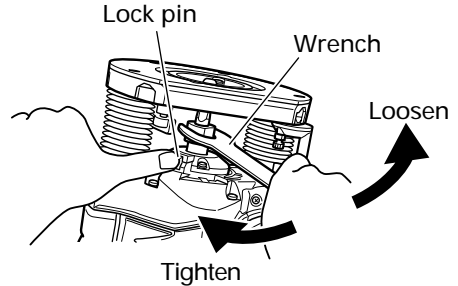

Fig. 2
- (1) Clean and insert shank of bit into the collet chuck until shank bottoms, then back it out approximately 1/16" (approx. 2 mm).
- (2) With the bit inserted and pressing the lock pin holding the armature shaft, use the 23 mm wrench to firmly tighten the collet chuck in a clockwise direction (viewed from under the router). (Fig. 2)